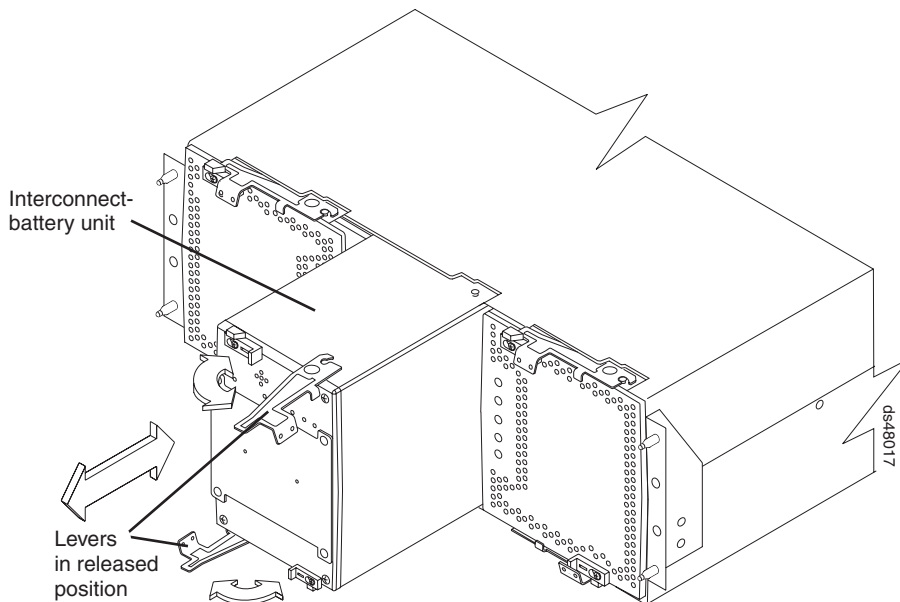

Figure 22. Replacing the interconnect-battery unit
2. Replace the interconnect-battery unit. Figure 22 shows the location of the interconnect-battery unit and the interconnect-battery unit levers.